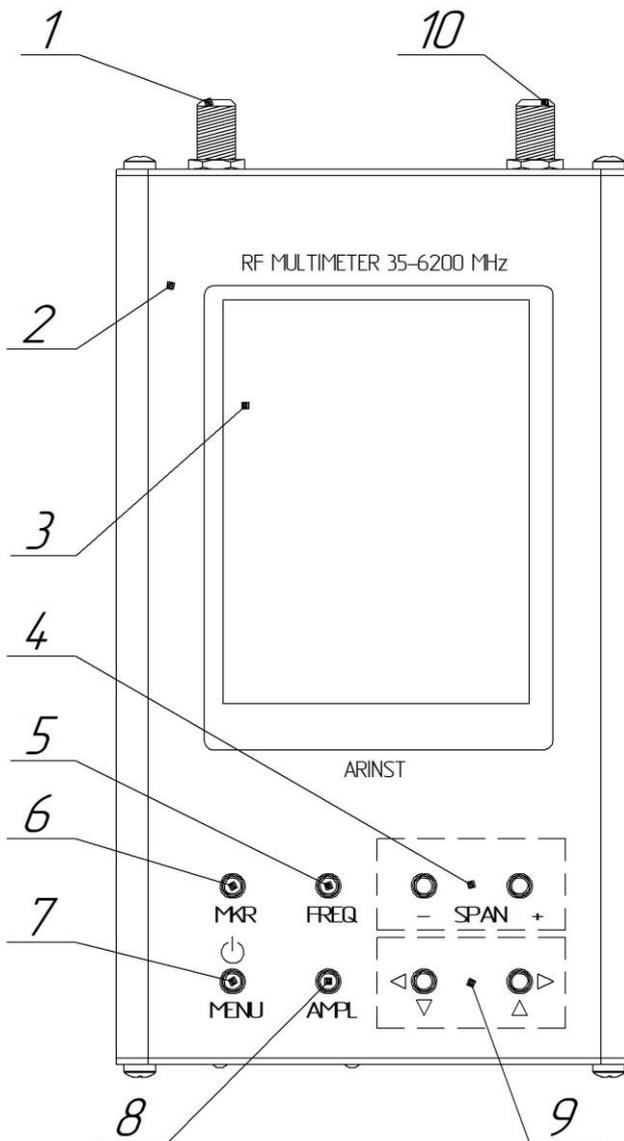

Figure 5.1 – Composition
5.1. The composition of **ARINST SSA TG R2s** spectrum analyzer is shown in Figures 5.1 and 5.2.